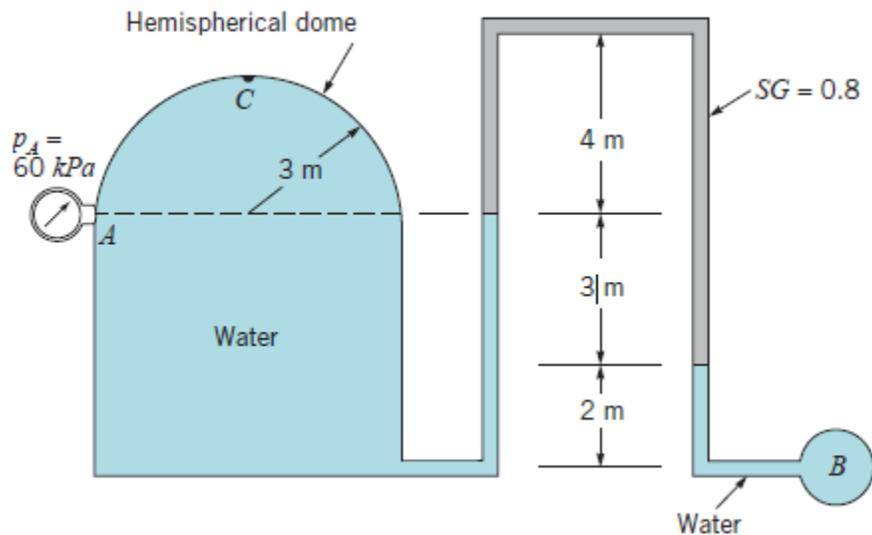

Fig. 2
3. A closed cylindrical tank filled with water has a hemispherical dome and is connected to an inverted piping system as shown in Fig. 2. The liquid in the top part of the piping system has a specific gravity of 0.8, and the remaining parts of the system are filled with water. If the pressure gage reading at A is 60 kPa, determine: (a) the pressure in pipe B, and (b) the pressure head, in millimeters of mercury, at the top of the dome (point C).